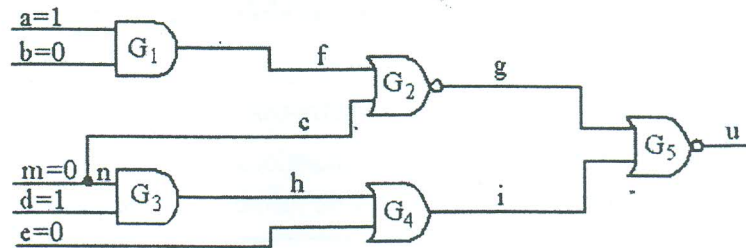

fig.3Q (C)
- 3C. Generate the list of faults that can be detected for the logic diagram shown in fig.3Q (C) by test vector 10010 using deductive fault simulation. (3M)